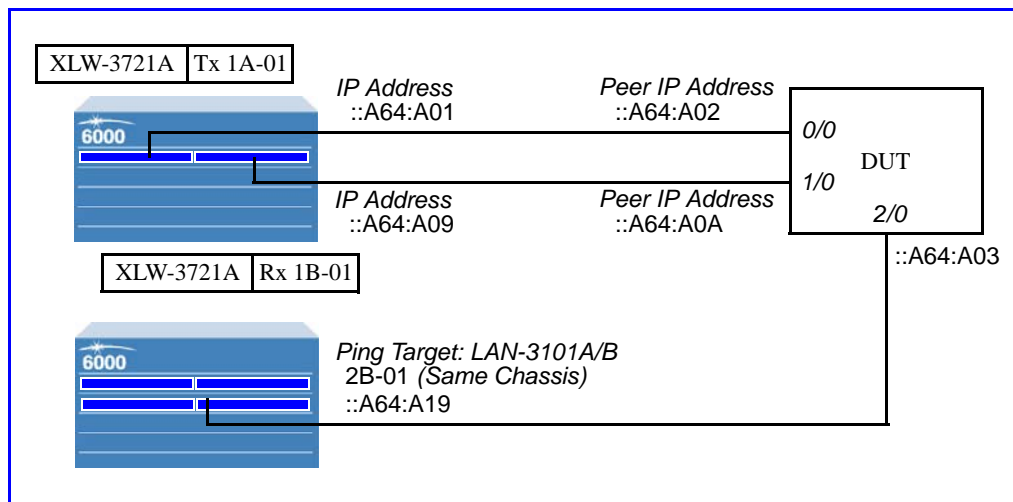

Figure 8-16. "Card Topology" IP Address Configuration
- 4 Refer to *Figure 8-16 on page 340* for the IP address information for port 1A-01 in this example. (A gateway IP address might need to be added, depending on the test configuration.)
Figure 8-16 shows the IP addresses in SmartWindow Layer 3 setup fields. (These are default values.)